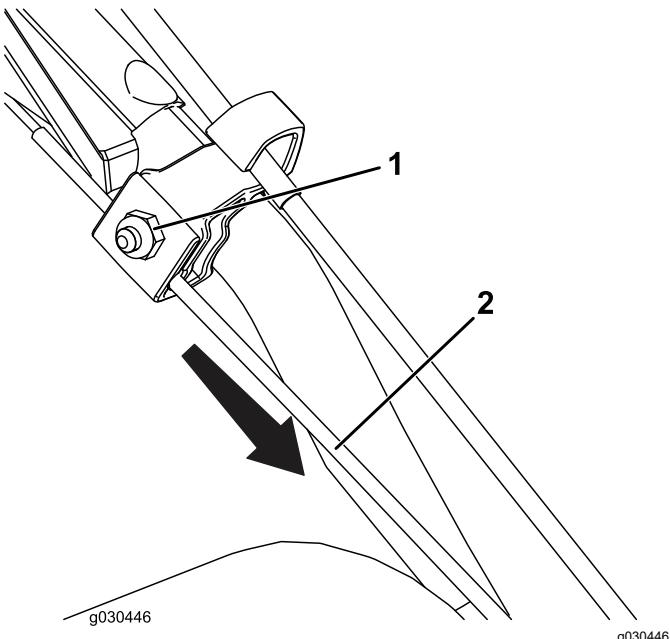

Figure 22
1. Loosen the nut on the upper cable clamp, but do not remove it (Figure 22).
- 2. Pull the cable down to remove most of the slack in the cable (Figure 22).
- 3. Tighten the nut (Figure 22).